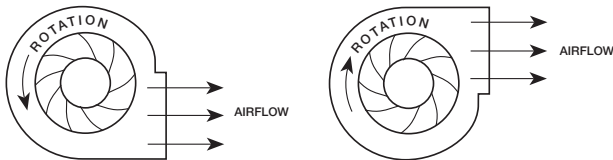

Figure 4:
3. **Wheel Rotation:** Direction of wheel rotation is critical. Check wheel rotation by momentarily energizing the unit. Improper rotation will result in reduced airflow and pressure capabilities. Rotation is always in the same direction as airflow at the outlet. See housing and wheel examples in Figure 4.
3. Start the fan and shut it off immediately to check rotation of the wheel with directional arrow in the motor compartment, see Figure 4.
Unit running backwards	Correct as shown in Figure 4, page 4.